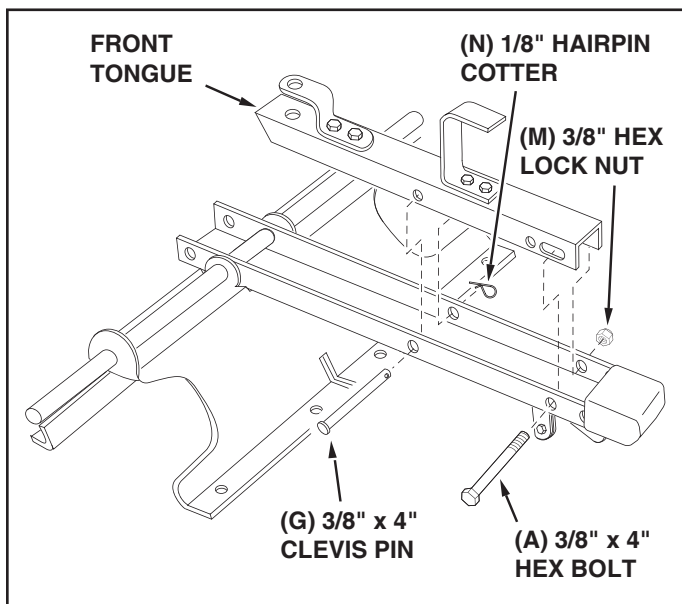
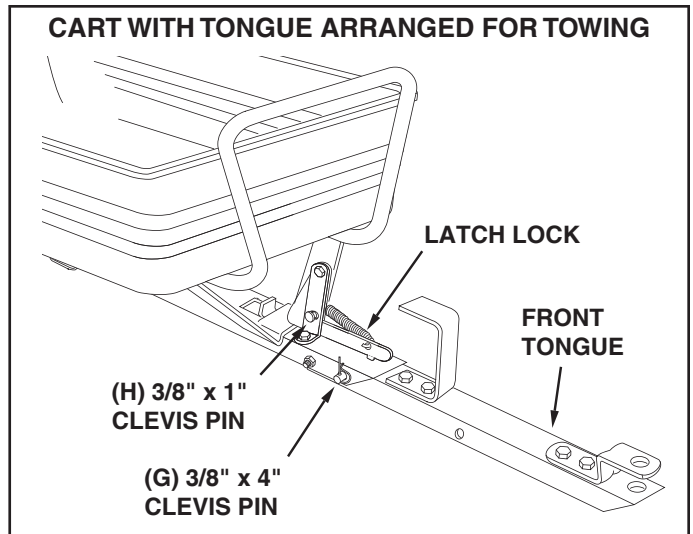

FIGURE 5
FIGURE 11
10. Place the front tongue inside the rear tongue as shown in figure 5. Fasten the tongues together using a 3/8" x 4" hex bolt (A) and a 3/8" hex lock nut (M). **Tighten,** leaving the nut just loose enough that the tongues can pivot freely. See figure 5.
11. Insert the 3/8" x 4" clevis pin (G) through the tongues and secure with a 1/8" hairpin cotter (N), as shown in figure 5.
1. To convert the cart for towing, remove the plastic cap from the tongue. Remove the 4" long clevis pin and hairpin cotter which secure the front tongue in storage position underneath the rear tongue. Pivot the front tongue outward and secure it in the towing position using the same clevis pin and hairpin cotter. Push the handle in all the way against the front of the tray by depressing the detent buttons in the bottom of the handle. Refer to figure 11 on page 7.
1. To convert the cart for push operation, remove the 4" long clevis pin and hair cotter pin which secure the tongue in the towing position. (See figure 11 on page 7.) Pivot the front tongue into the storage position underneath the rear tongue and secure it using the 4" long clevis pin and hair cotter pin. (Refer to figure 5 on page 6.) Place the plastic cap over the exposed end of the tongue.